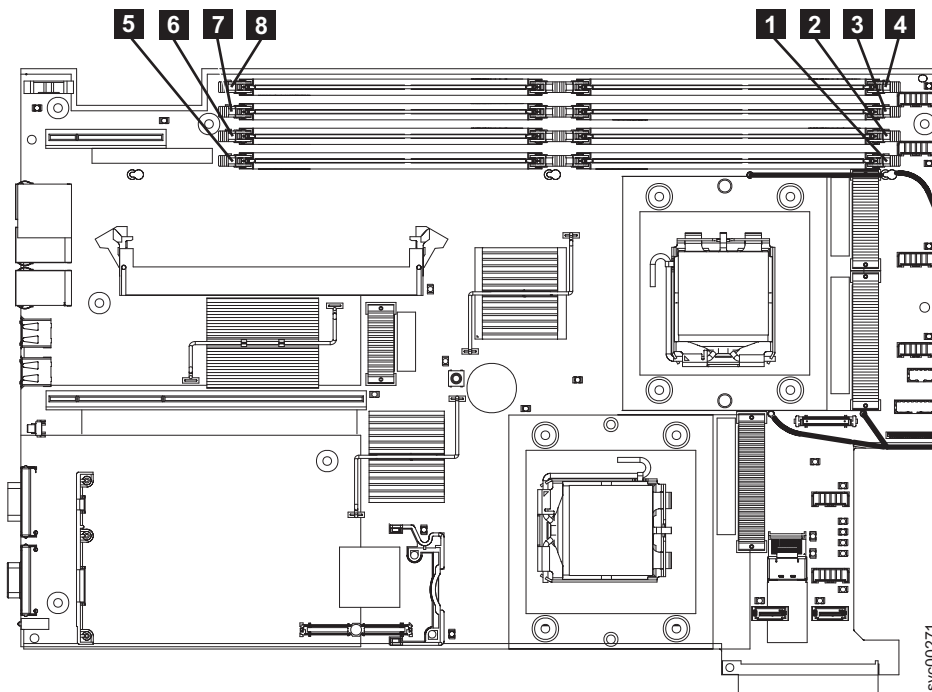

Figure 93. Locating the SAN Volume Controller 2145-8G4 memory modules
- The original version (Rev 1) uses eight 1 GB memory modules in slots **1** through **8**, which are shown in Figure 93.